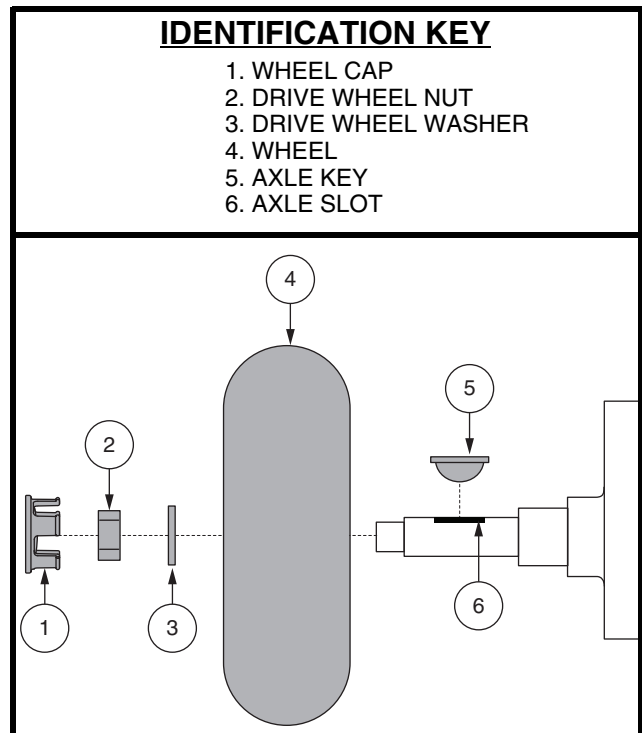

Figure 23. Wheel Removal
3. Remove the wheel cap, drive wheel nut and washer from the axle. See figure 23.
4. Remove the drive wheel nut and washer from the axle. **See figure 23.**
9. Slide the wheel back onto the axle. Make sure that the axle key is in the axle slot. **See figure 23.**